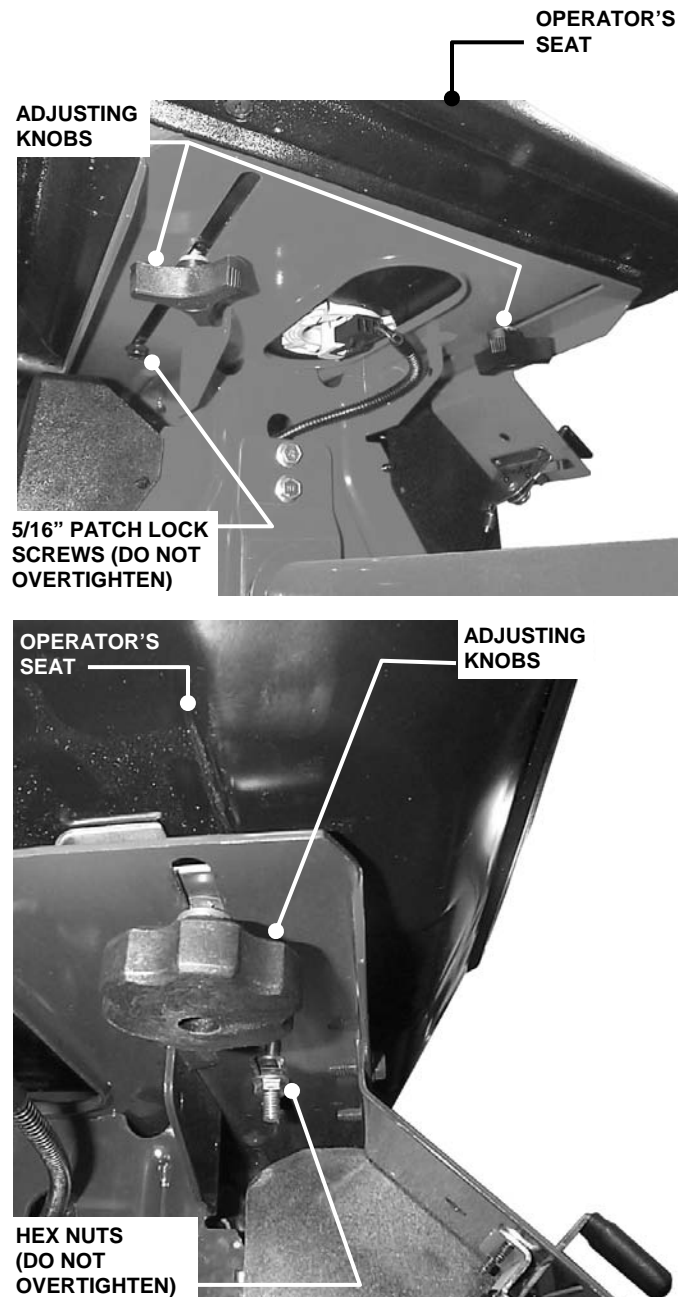

FIGURE 2.3
1. With the engine stopped, loosen the two adjusting knobs and move seat to desired position. After adjustment, tighten knobs securely. If seat does not move after loosening knobs, it may be necessary to loosen the 5/16" patch lock screws or hex nuts located at the rear of the seat. See Figure 2.3.